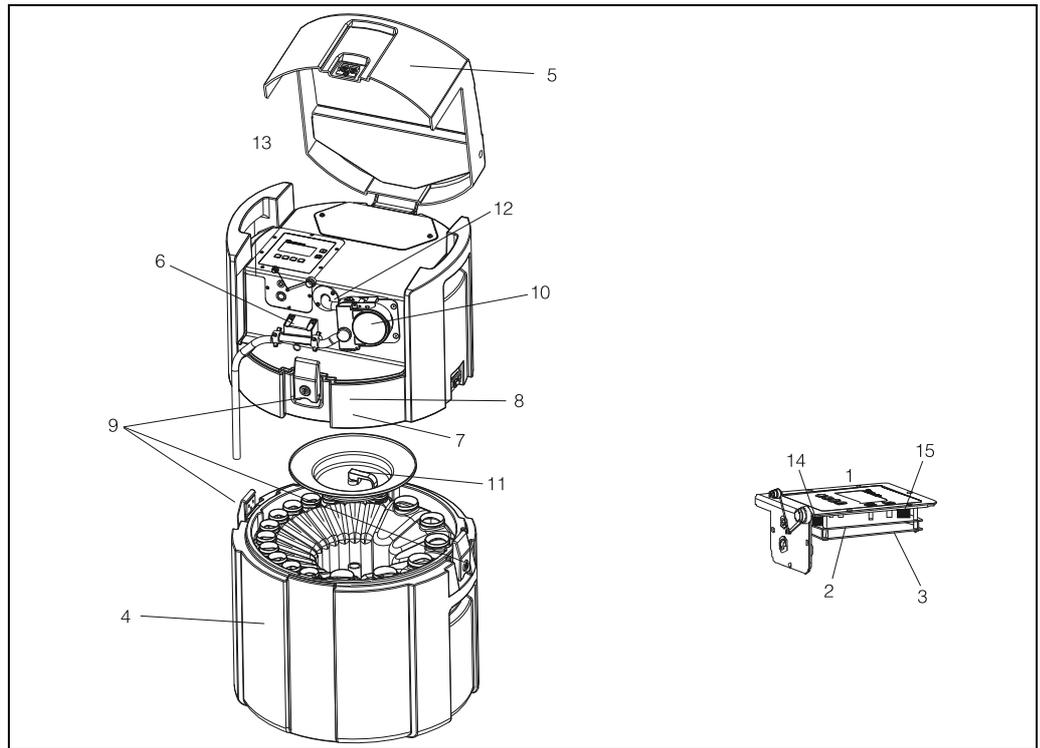

Fig. 34: Spare parts for Liquiport 2000 Ex (item numbers explained in the spare parts list)
<p>Software</p> <p>A 1 programme</p> <p>B 7 programmes</p> <p>Language</p> <p>A German</p> <p>B English</p> <p>C French</p> <p>D Italian</p> <p>E Spanish</p> <p>F Dutch</p> <p>G Danish</p> <p>K Czech</p> <p>P Polish</p> <p>Module</p> <p>A Controller cpl. (→ Fig. 34, item 1)</p> <p>B CPU incl. display (→ Fig. 34, item 2)</p>